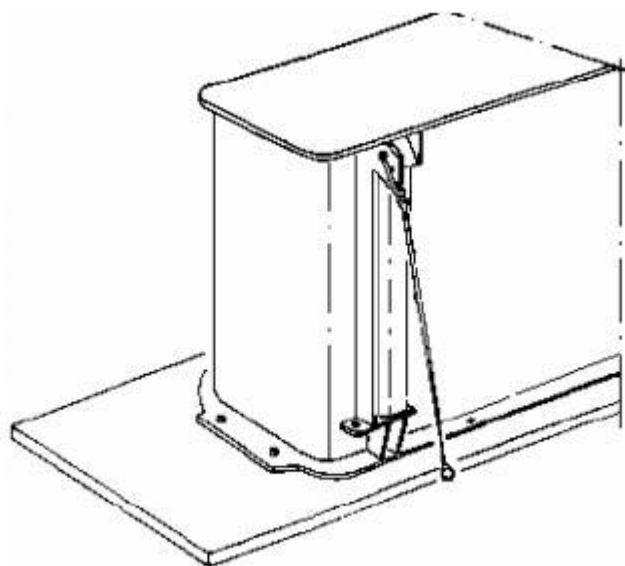

Figure 2. Position of the transformer on the trailer
- As indicated in figure 2 the transformer must go as centered as possible in relation to the trailer.